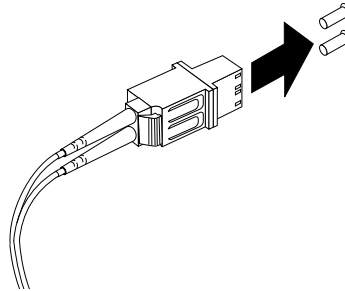

Figure 12. Removing the LC-SC cable adapter protective caps
3. Remove the two protective caps from the LC connector end of the LC-SC cable, as shown in Figure 12. Save the protective caps for future use.